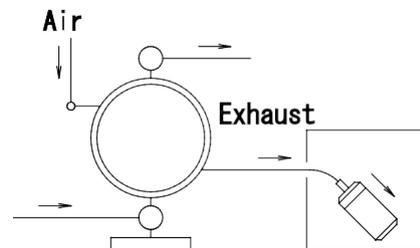

Fig. 3.2
- *Exhaust should direct outside, not into the fluid in which the pump is submerged. For information on how to arrange the exhaust, see NOTE: Arranging outside exhaust and Fig.3.2 below.